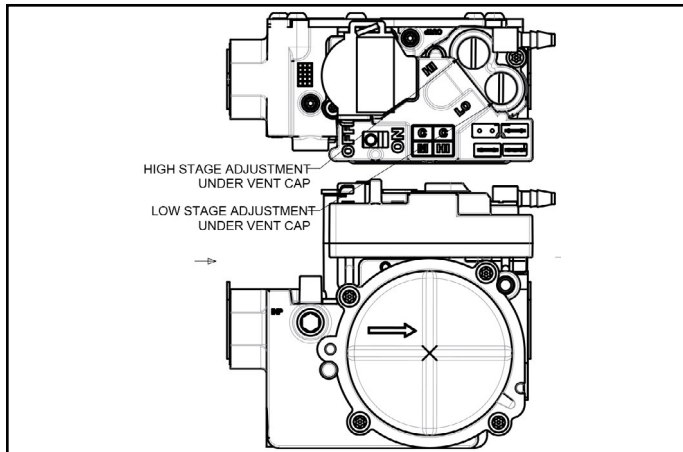

Figure 12. Gas Valve
3. Move the gas valve switch to the “ON” position (see Figure 12).
2. Move the gas valve switch to the “OFF” position (see Figure 12).